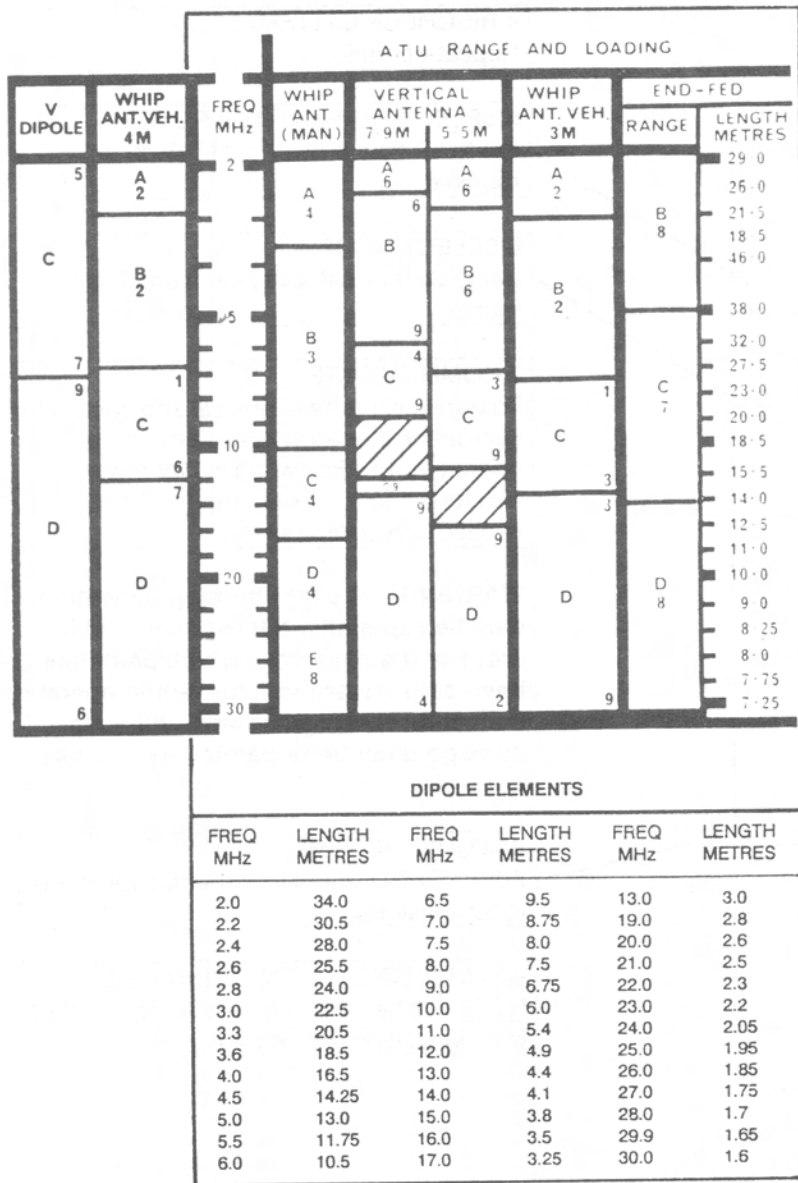
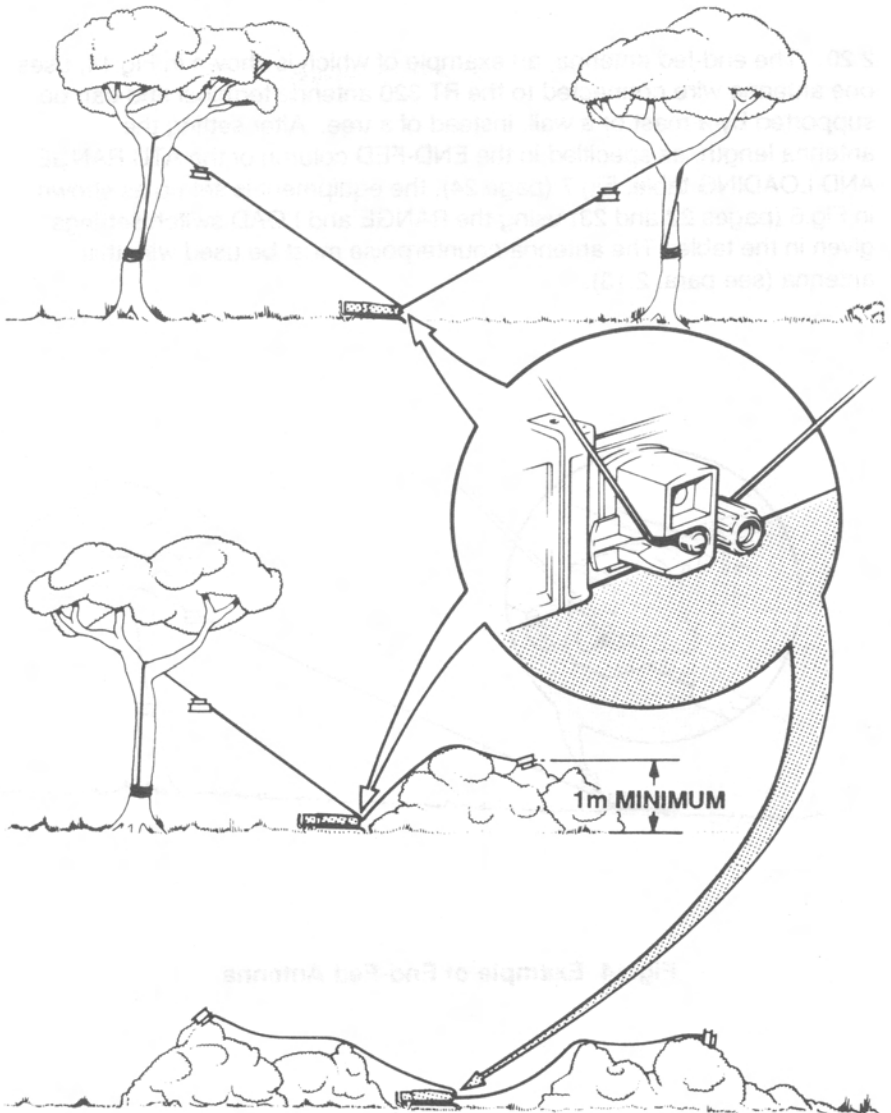
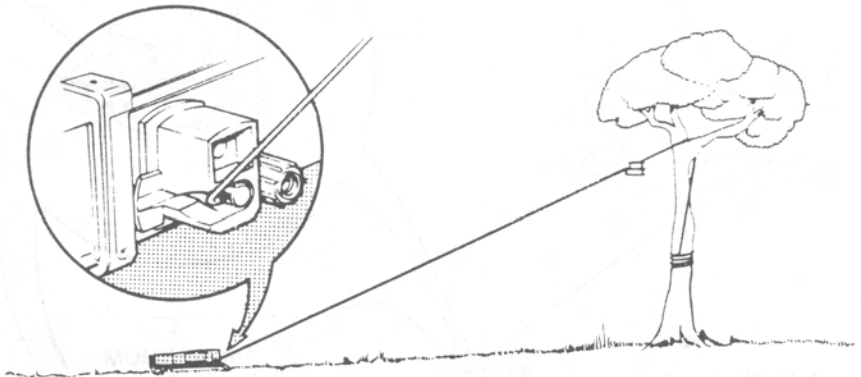

Fig.7 ATU Range and Loading and Dipole Elements Tables
Fig.13 Examples of other Dipole Configurations
Fig.14 Example of End-Fed Antenna
2.7 The settings of the RANGE and LOAD switches on the RT 320 antenna tuning unit (ATU) are determined by the operating frequency and the type of antenna (various configurations are described in para. 2.15 to 2.20), as shown in the ATU RANGE AND LOADING TABLE (Fig.7, page 24) on the equipment case. Switch settings for V dipole and vehicle 4 m whip antennas are not given in this table and form the subject of a separate table, also illustrated in Fig.7. The method of using the tables is as follows:
2.19 Examples of other dipole configurations are given in Fig.13 (page 37). In these examples, the dipole centre junction and antenna feeder cable are not used, the coaxial link between the INT TUNER and T/R sockets remains fitted and the wire antenna ends are connected directly to the RT 320 antenna and earth terminals as shown. The lengths of the dipole elements are specified in the table on the radio set (also shown in Fig.7, page 24). The equipment is set up as shown in Fig.6 (pages 22 and 23), using the RANGE AND LOAD switch settings given for the V dipole in Fig.7 (page 24).
2.20 The end-fed antenna, an example of which is shown in Fig.14, uses one antenna wire connected to the RT 320 antenna terminal and can be supported by a mast or a wall, instead of a tree. After setting the antenna length, as specified in the END-FED column of the ATU RANGE AND LOADING table, Fig.7 (page 24), the equipment is set up as shown in Fig.6 (pages 22 and 23) using the RANGE and LOAD switch settings given in the table. The antenna counterpoise must be used with this antenna (see para. 2.13).